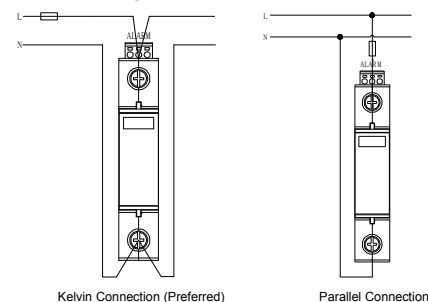

Figure 3 - Wiring Diagram
2. Wiring: The SPD shall be installed in parallel with the load or electrical system wiring using #6 AWG stranded (#4 solid) wire. The torque to be applied to the terminal screws is 3.3 lb-ft (4.5 Nm). Interconnecting wire should be no longer than 20" (500mm) in total length with a maximum bend radius of 4" (100mm). Strip the wire insulation 5/16" (10mm). Do not loop or twist the interconnecting wire. Determine the electrical configuration and wire as shown in Figure 3.